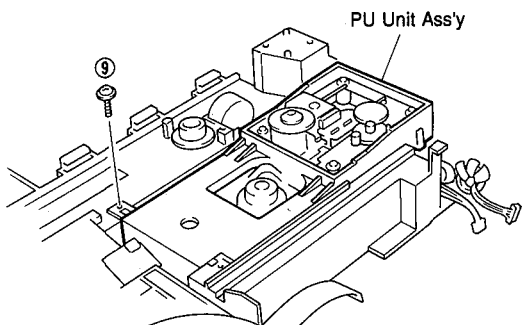

Fig. 4
- a. Remove 1 screw (⑨) and then remove the PU Unit Ass'y as shown Fig. 4.